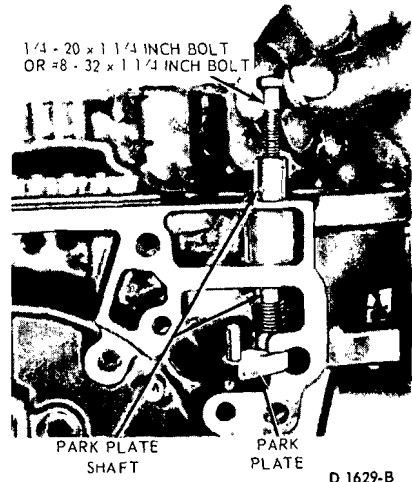

FIG. 42—Removing Park Plate Shaft
5. Thread a 1/4-20 inch or # 8-32 x 1 1/4 inch screw (Fig. 42)